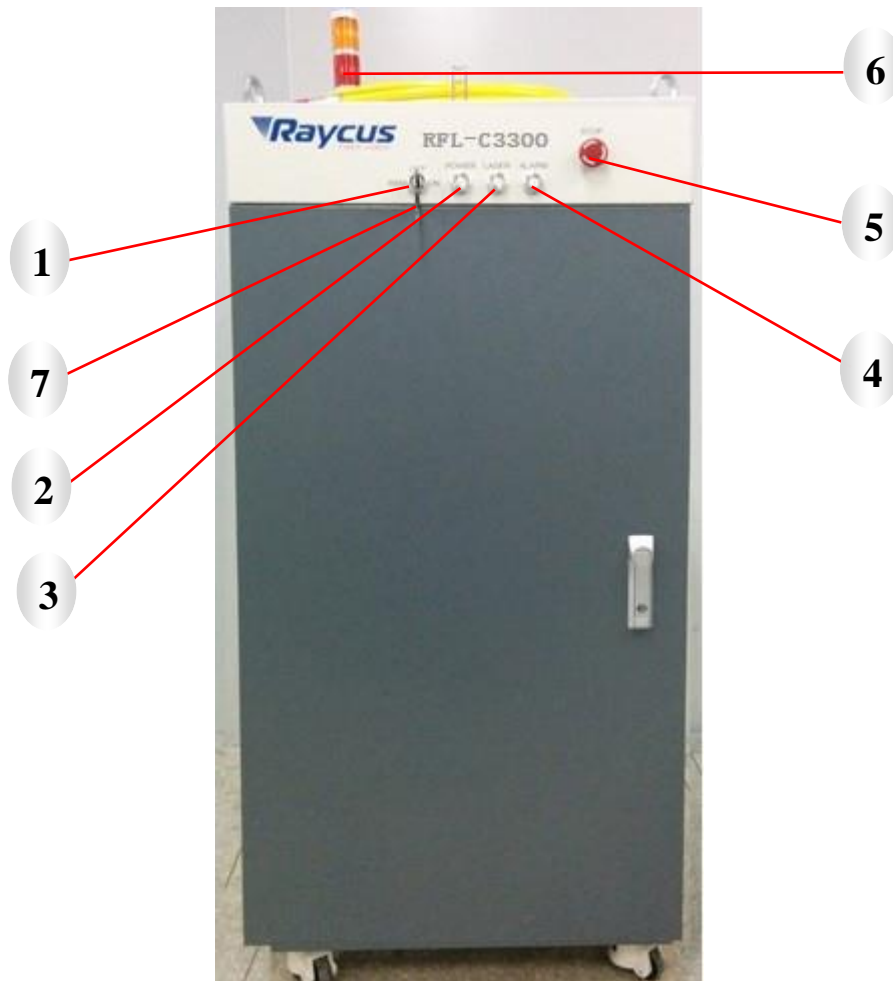

Figure 3: Front Panel View
Figure 3 shows the front panel.
- 1. REM/OFF/ON:** Key switch, the power switch of the laser. Insert the key (Item 7 in Figure 3); either turn the key clockwise to the “ON” position or counterclockwise to “REM” position will power on the laser. Then the laser will enter a control mode depending on your previous setup in the “CONTROL” cable. You can refer to **4.6 Entering a Control Mode** for more details.
should be left disconnected. The PE of the cable for “INTERFACE” is not shown in Figure 3, but we recommend you to connect all the PE wires to the protective earth.